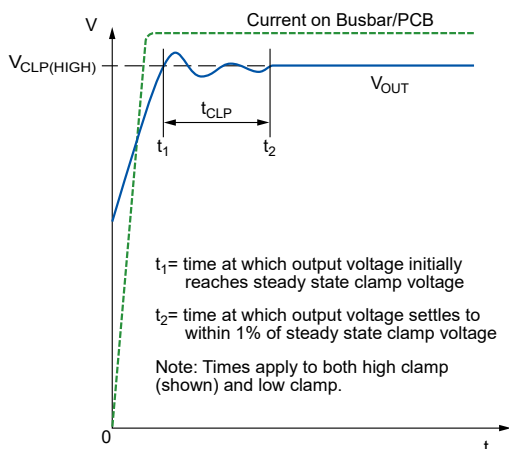

Figure 41: Delay to Clamp
**Delay to Clamp ( $t_{CLP}$ ).** A large magnetic input step may cause the clamp to overshoot its steady-state value. The delay to clamp,  $t_{CLP}$ , is defined as: the time it takes for the output voltage to settle within  $\pm 1\%$  of the clamp voltage dynamic range, after initially passing through its steady-state voltage, as shown in Figure 41.